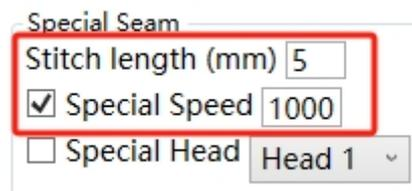

Fig. 5.4.3c Special Seam Parameter Setting
② After setting the special seam segment, enter the layer setting page and set the special seam parameters, as shown in Fig. 5.4.3c below. Click OK, as shown in Fig. 5.4.3d below.